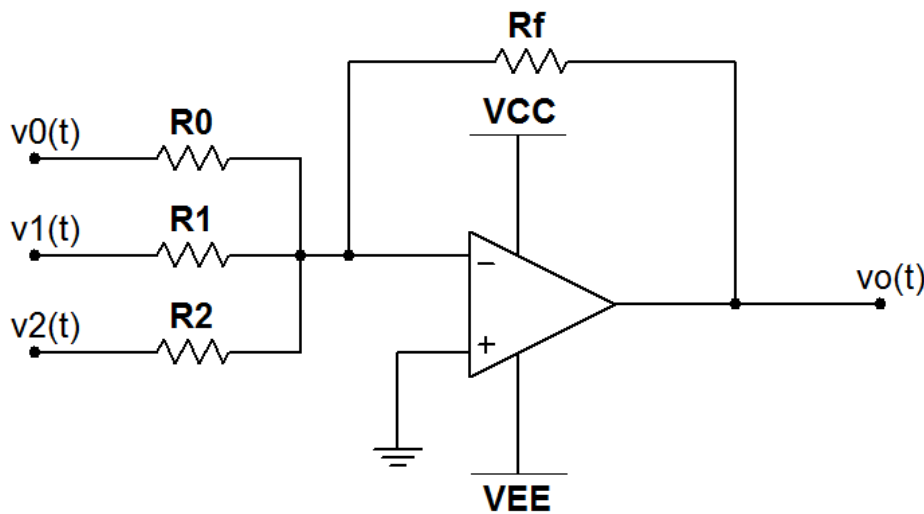

Figure 2.3: Circuit for Problem 2.3
Figure 2.3 shows a three-channel *summing amplifier* constructed from an operational amplifier. The number of channels may be extended by adding additional resistors connected to the inverting input of the op amp.
Enter the circuit of Figure 2.3 on the previous page using the TL072CP op amp model. Place the VCC and VEE power supplies and set their values to +15 V and -15 V.
1. Build the circuit of Figure 2.3 on page 59. Drive the inputs from the digital I/O lines DIO0, DIO1, and DIO2. Monitor the summing amplifier output with the NI ELVISmx Oscilloscope.